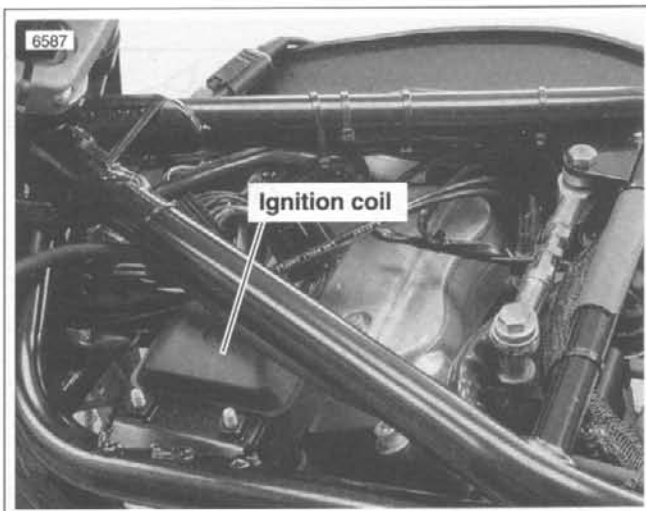

Figure 4-77. Ignition Coil Location
1. See Figure 4-77. Attach coil to frame with screws and washers. Tighten to 4-6 ft-lbs (5.4-8.1 Nm).